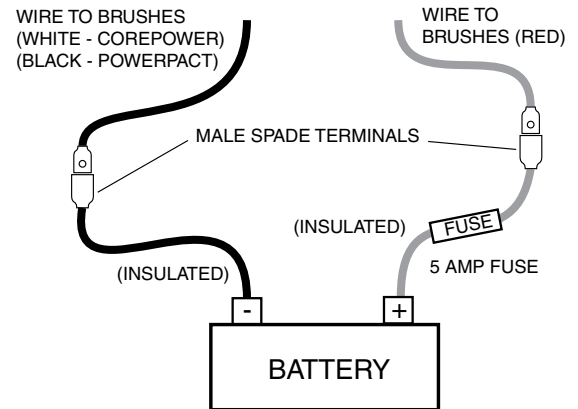

Figure 22. Jumper Wires Connected
- Using two jumper wires similar to Figure 22, proceed as follows: